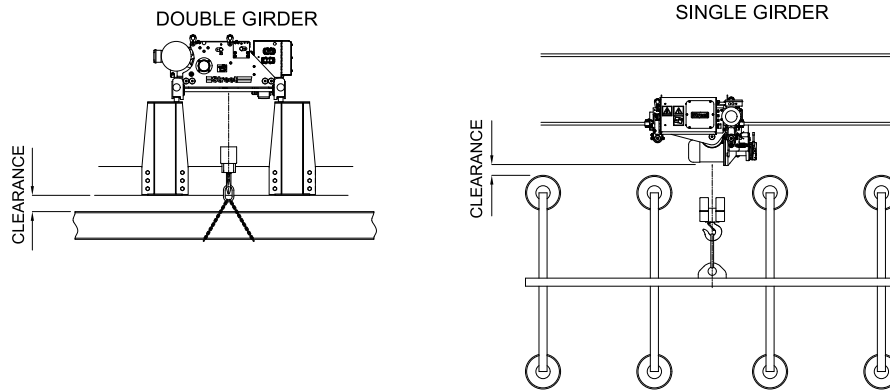

Figure 45 – Clearances to consider when lifting
18. Ensure that adequate clearance is maintained between the load or lifting attachment and the hoist or crane structure. See Figure 45.